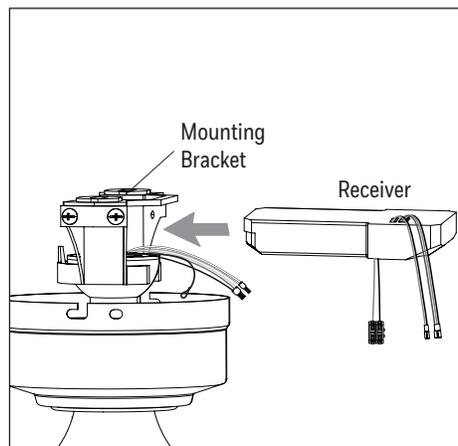

Figure 2.8
8. Insert the receiver in the mounting bracket with antenna end first and flat side facing up. Note: The receiver rests directly on the downrod ball (Figure 2.8).